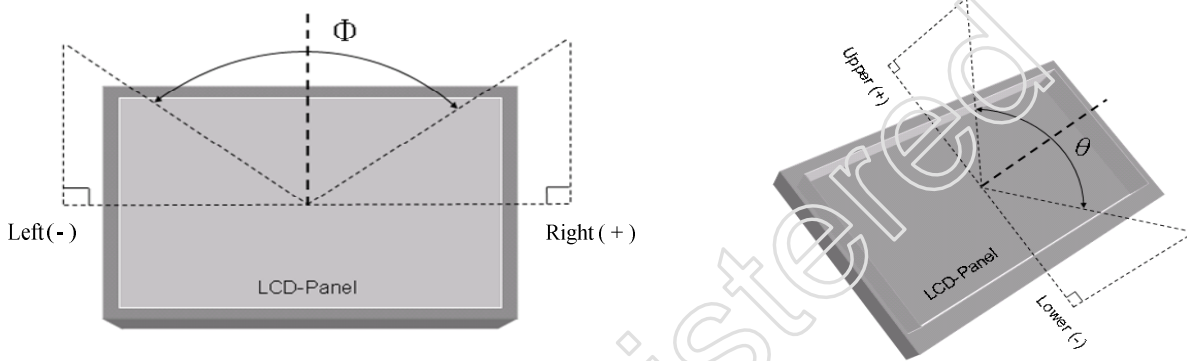

Fig.8-1 Definition of Viewing Angle
*2) Definition of Viewing Angle(θ,ψ),refer to Fig.8-1 as below :